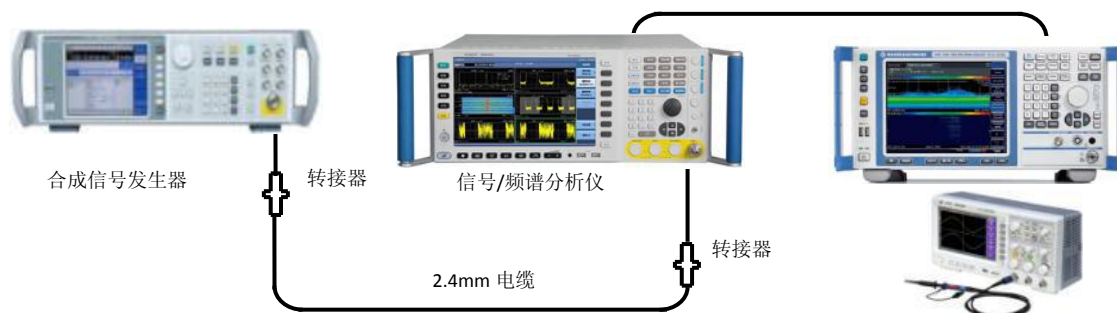

Fig .8.7 Testing device of other indicators
- 1) Local measurement update rate: connect apparatus as shown in Fig. 8.7. Set 4051 as spectrum analysis mode, analysis bandwidth as 3MHz, frequency width as 0Hz and scan time as 1us, use the oscilloscope to measure the pulse rising time of signal analyzer rear panel trigger output end, and measure the mean period as the local measurement update rate.